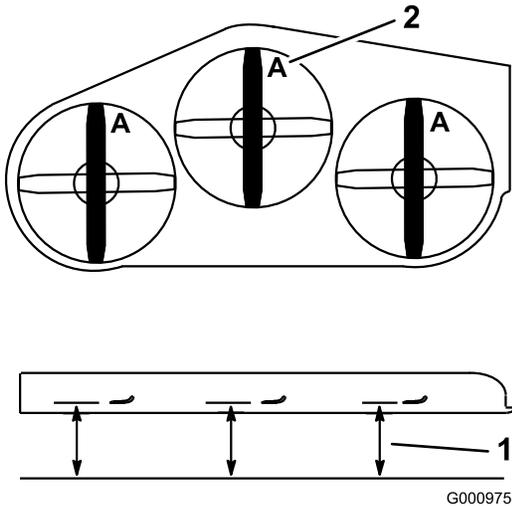

Figure 69
2. Measure from a level surface to the cutting edge, position A, of the blades (Figure 69).